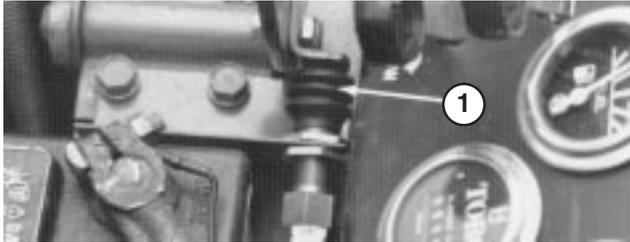

Figure 43
3. Remove boot from button end of PTO switch (Fig. 43). Retain boot for reinstallation. Separate switch wire connectors.